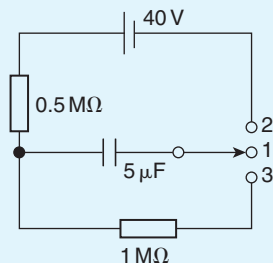
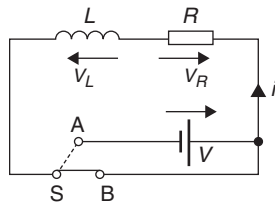

Figure 18.9
Figure 18.13
12. (a) In the circuit shown in Fig. 18.9, with the switch in position 1, the capacitor is uncharged. If the switch is moved to position 2 at time  $t=0\ \text{s}$ , calculate the (i) initial current through the  $0.5\ \text{M}\Omega$  resistor, (ii) the voltage across the capacitor when  $t=1.5\ \text{s}$  and (iii) the time taken for the voltage across the capacitor to reach  $12\ \text{V}$ .
When a series connected  $L-R$  circuit is connected to a d.c. supply as shown with S in position A of Fig. 18.13, a current  $I = V/R$  flows after a short time, creating a magnetic field ( $\Phi \propto I$ ) associated with the inductor. When S is moved to position B, the current value decreases, causing a decrease in the strength of the magnetic field. Flux linkages occur, generating a voltage  $v_L$ , equal to  $L(di/dt)$ . By Lenz's law, this voltage keeps current  $i$  flowing in the circuit, its value being limited by  $R$ . Since  $V = v_L + v_R$ ,  $0 = v_L + v_R$  and  $v_L = -v_R$ , i.e.  $v_L$  and  $v_R$  are equal in magnitude but opposite in direction. The current decays exponentially to zero and since  $v_R$  is proportional to the current flowing,  $v_R$  decays exponentially to zero. Since  $v_L = v_R$ ,  $v_L$  also decays exponentially to zero. The curves representing these transients are similar to those shown in Fig. 18.9.